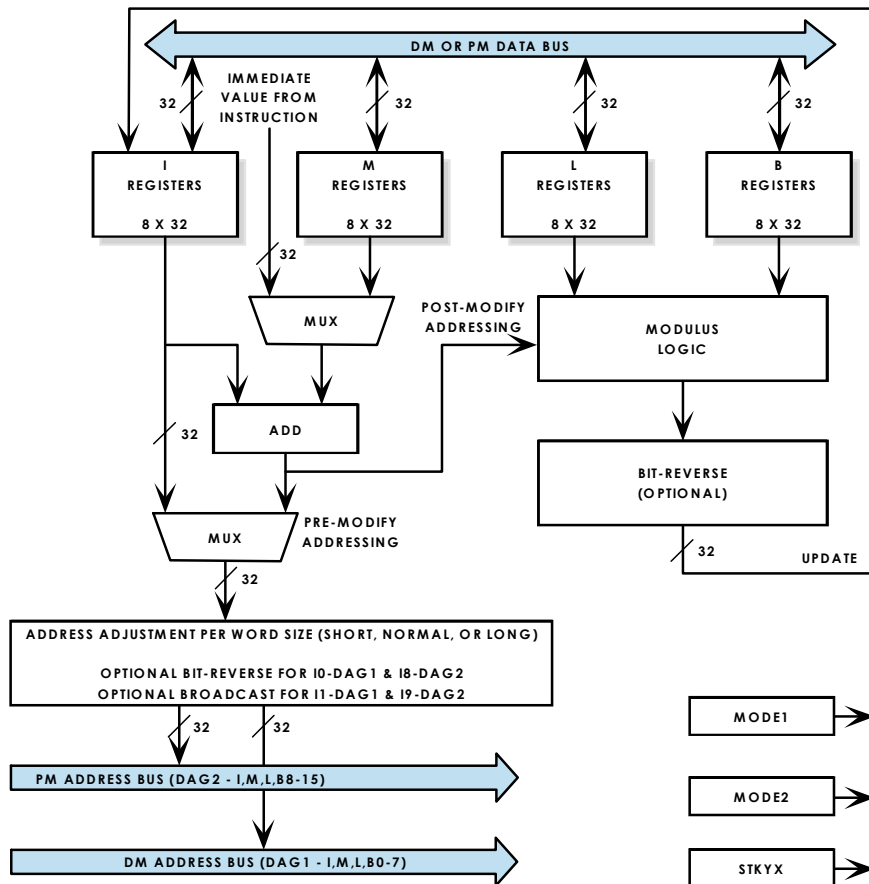

Figure 4-1. Data Address Generator (DAG) Block Diagram
The DSP's Data Address Generators (DAGs) generate addresses for data moves to and from Data Memory (DM) and Program Memory (PM). By generating addresses, the DAGs let programs refer to addresses indirectly, using a DAG register instead of an absolute address. The DAGs architecture, which appears in Figure 4-1, supports several functions that minimize overhead in data access routines. These functions include:
As shown in Figure 4-1, each DAG has four types of registers. These registers hold the values that the DAG uses for generating addresses. The four types of registers are:
The DSP's DAGs perform several types of operations to generate data addresses. As shown in Figure 4-1 on page 4-3, the DAG registers and the `MODE1`, `MODE2`, and `STKYx` registers all contribute to DAG operations. The following sections provide details on DAG operations:
An important item to note from Figure 4-1 is that the DAG automatically adjusts the output address per the word size of the address location (short word, normal word, or long word). This address adjustment lets internal memory use the address directly.
The DAGs support addressing circular buffers—a range of addresses containing data that the DAG steps through repeatedly, “wrapping around” to repeat stepping through the range of addresses in a circular pattern. To address a circular buffer, the DAG steps the index pointer (*I* register) through the buffer, post-modifying and updating the index on each access with a positive or negative modify value (*M* register or immediate value). If the index pointer falls outside the buffer, the DAG subtracts or adds the length of the buffer from or to the value, wrapping the index pointer back to the start of the buffer. The DAG's support for circular buffer addressing appears in Figure 4-1 on page 4-3, and an example of circular buffer addressing appears in Figure 4-4.
Circular buffering may only use post-modify addressing. The DAG's architecture, as shown in Figure 4-1 on page 4-3, cannot support pre-modify addressing for circular buffering, because circular buffering requires that the index be updated on each access.